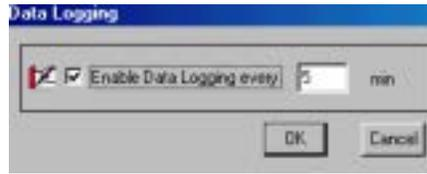

Figure 20
- c. Data logging displays the data logging dialog box that allows the user to enable and select the time interval for the oven data. Click the Data logging icon on the main toolbar or from the menu bar click Utilities then Data Logging. **See Figure 20.**